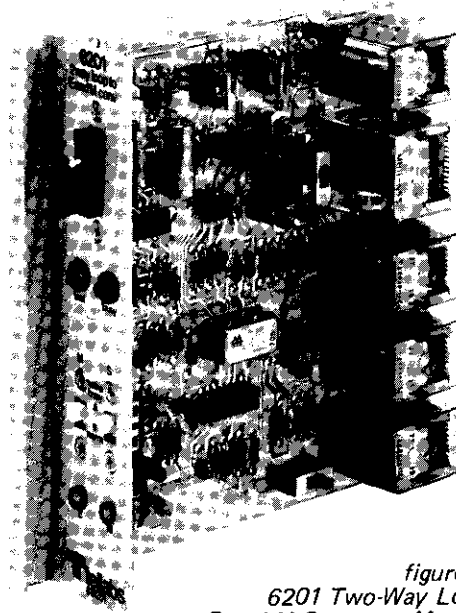

figure 1.
1.01 The Tellabs 6201 Two-way Loop to E and M Converter module (figure 1) provides signaling lead conversion between a loop-dial switching equipment trunk and an E and M-lead signaling facility. The module provides this conversion for one-way outgoing trunks (dial pulse originating), one-way incoming trunks (dial pulse terminating) and two-way loop dial trunks.